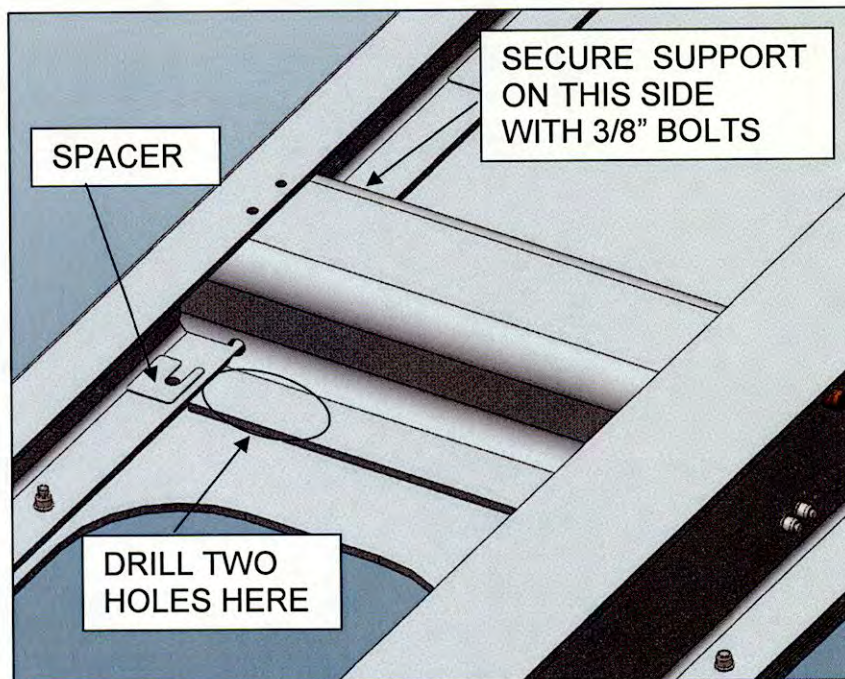

Figure 8
- c. Place the front support in its permanent place on the coupler as shown in Figure 8 below. Secure it with 3/8" bolts placed in the existing holes at the front of the support. This will keep the support secured for the next step.
- d. Drill two holes in the front support shown in Figure 8 below by going through the existing holes in the bottom plate. Use an 'X' bit (0.397).
6. Move the front supports into place to be attached to the bottom plate. It may be necessary to tip the rear of the front supports up in order to move them. Place the spacers in between the coupler 'C' channel and front supports (see Figure 8 on page 5). **MAKE SURE THAT THE BOLTS HOLDING THE REINFORCEMENTS DO NOT FALL OUT.** If the bolts fall out the beam will have to be removed or BOM fasteners will have to be used to attach the reinforcements to the front supports.